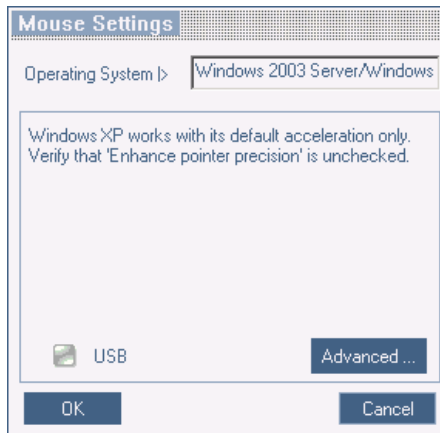

Figure 21 Mouse Settings box
1. From the Toolbar click  / **Manual Settings**. The **Mouse Settings** box appears see Figure 21.